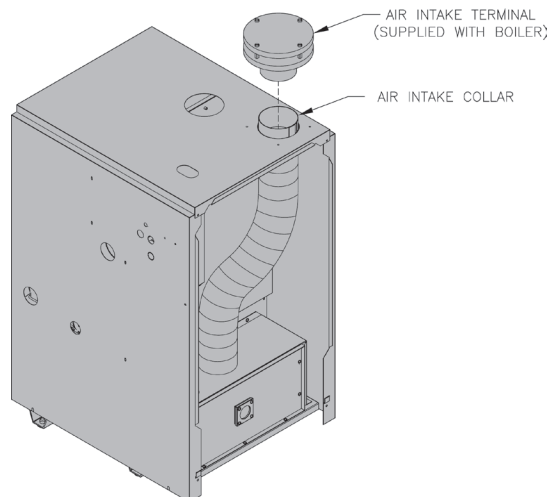

Figure 16: Indoor Air - Air Intake Terminal Installation
15. Install supplied air intake terminal. See Figure 16.
* VENT PIPE MINIMUM CLEARANCE TO COMBUSTIBLE MATERIAL IS FOUR (4) INCHES WHEN VENT IS INSTALLED IN A FULLY ENCLOSED (CHASE) APPLICATION OR THREE (3) INCHES WHEN VENT IS INSTALLED WITH AT LEAST ONE SIDE OPEN, SIMILAR TO A JOIST BAY APPLICATION.